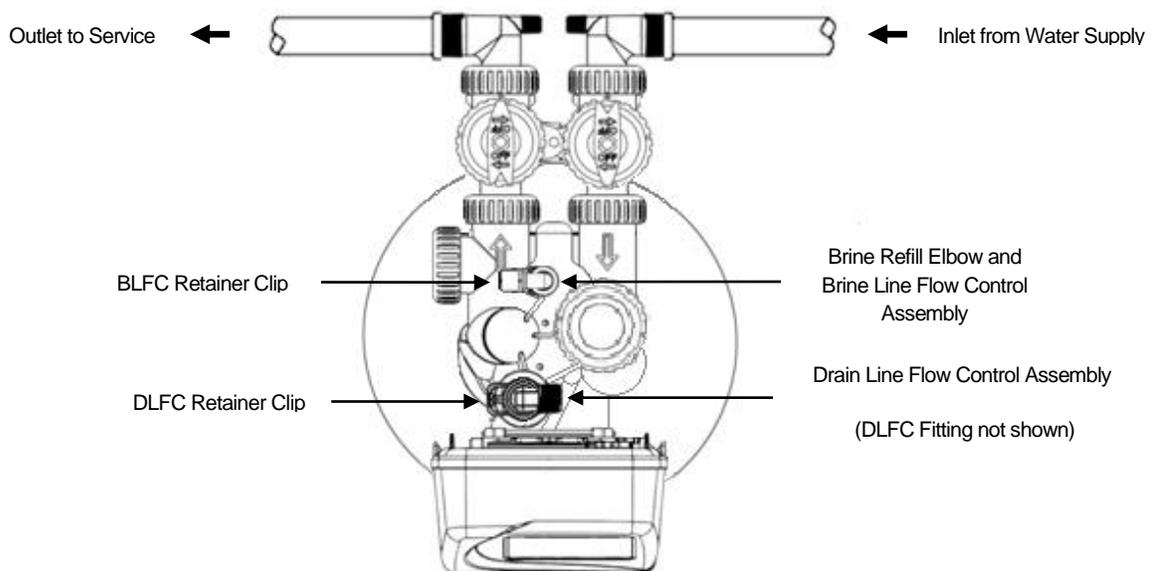
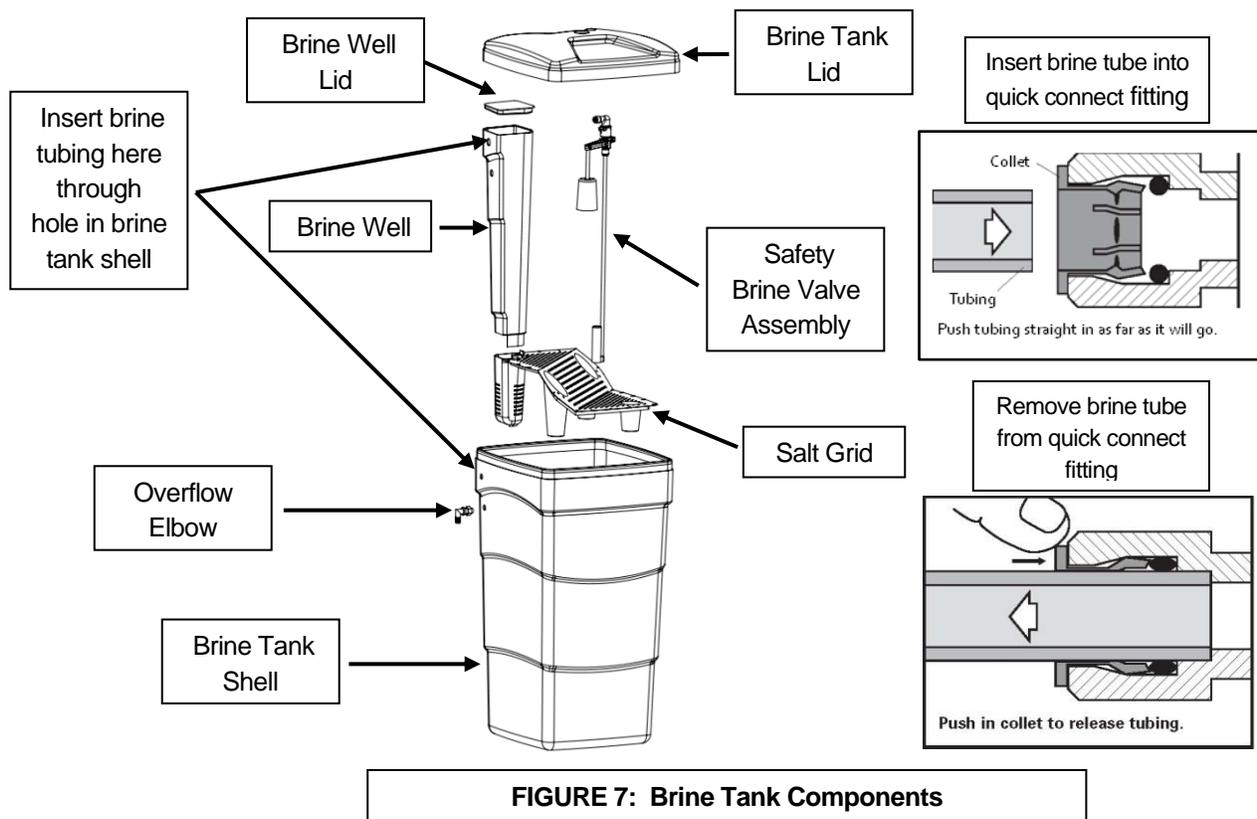

FIGURE 6: Top View of Control Valve with Bypass Installed
FIGURE 7: Brine Tank Components
STEP 7: Apply thread tape to DLFC Assembly. Remove drain line flow control (DLFC) retainer clip (Figure 6, Page 5) and remove the DLFC assembly from the valve body, (Figure 6, Page 5). Apply thread tape to threads. Slide drain fitting compression nut onto provided drain tubing and place the tube insert inside the end of the tubing. Insert tubing end with insert into drain elbow and tighten the compression nut onto the thread taped elbow. Reinsert DLFC assembly into the valve body, making certain it is FULLY inserted before replacing the retaining clip.
STEP 8: Install softener drain line. Use 1/2" I.D. polyethylene tubing (**DO NOT USE FLEXIBLE VINYL TUBING!**) to run drain line from control valve DLFC fitting (Figure 6, Page 5, not shown) to floor drain or sump pit capable of handling the backwash rate of the filter (refer to specifications and flow rate on pages 15-16) or discard the compression fitting and use 3/4" NPT fitting to connect a rigid pipe drain line (recommended). If backwash flow rate is greater than 7 gpm, use 3/4" NPT connector with rigid drain line. There must be an air gap at the end of the drain line to prevent siphoning of waste water. Length of drain line should be 15' or less. **AVOID OVERHEAD DRAINS.**
STEP 9: Connect brine line between the softener and safety brine valve. Install the 3/8" O.D. polyethylene tube from the brine refill elbow (Figure 6, Page 5) to the safety brine valve (Figure 7) inside the brine tank. **DO NOT INSERT THE BRINE REFILL LINE INTO THE BRINE TANK OVERFLOW ELBOW FITTING. Do not put salt in the tank until STEP 25.**
STEP 10: Install brine tank overflow drain line (not included). An overflow drain line is recommended. The softener includes a safety brine valve (Figure 7) which reduces the chance of a brine overflow. In the event of a malfunction, an overflow drain line will direct the "overflow" to the drain instead of onto the floor where it could cause considerable damage. This fitting is an elbow on the side of the brine tank (Figure 7). Attach a length of 1/2" I.D. tubing to fitting and run to a drain. Do not elevate overflow line higher than 3" below bottom of overflow fitting. **DO NOT "TIE" THIS TUBE INTO THE DRAIN LINE OF THE CONTROL VALVE AS IT WILL RESULT IN OVERFILLING THE BRINE TANK AND FLOODING.** The overflow line must be a direct, separate line from the brine tank overflow elbow to a floor drain or sump pit.